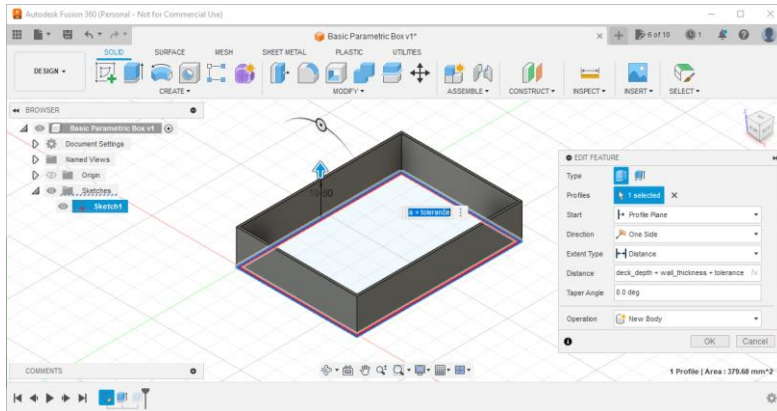

Figure 16: Updating the extrusion values with the user parameters
4. Change the value of the wall extrusion distance to be the deck depth plus the wall thickness plus the tolerance as in Figure 16.